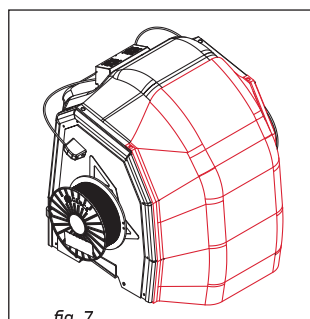

fig. 7
8. Mount the front enclosure part on the positioning pins at the top enclosure part (fig.7).